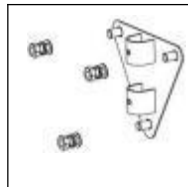
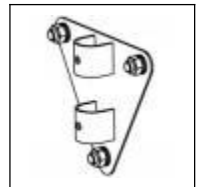

Fig.3.
Fig.4.
- 3). Install the wall panel (2) on the wall and lock three the nut (3). You may need to use a small wrench.See the (Fig.3.) (Fig.4.)